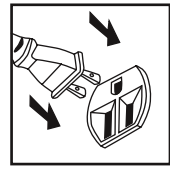

Fig. 4
4. Verify the switch is in the '0' (OFF) position before plugging the cable in the power supply (Fig. 4)